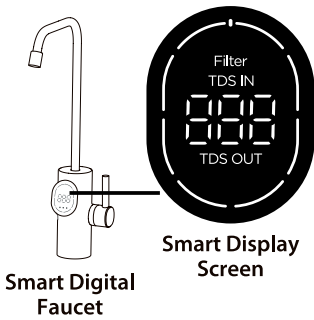

Figure 1
1. The system is powered on: All indicators flash 5 times (Fig. 1).